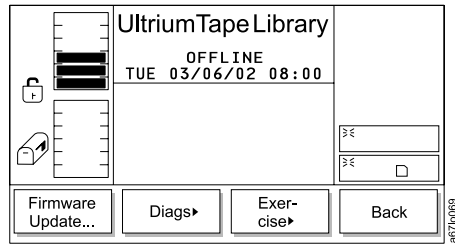

Figure 307. Library Submenu
3. Press the button below the **Library** softkey. The Library Submenu displays (see Figure 307 on page 209).